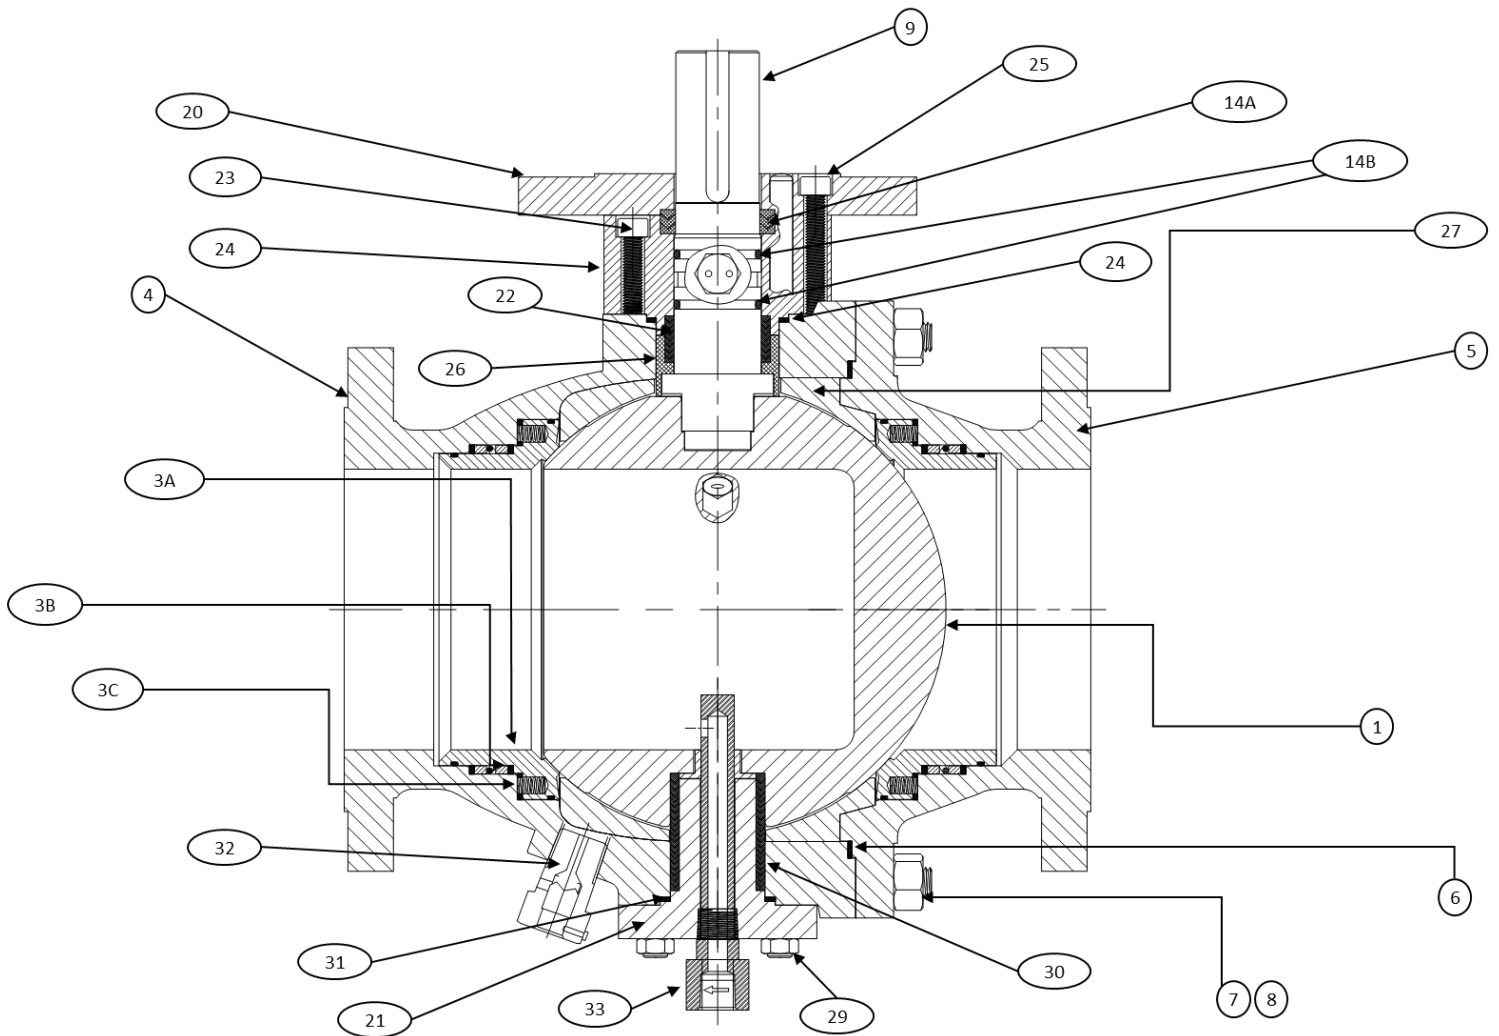

Figure 1
2. Cycle the valve while it is still in the line to remove any possible trapped pressure within the body cavity. Review Figure 1.
7. Place the valve with the tailpiece (5) facing up. Remove the Trunnion cap (28) and the Bonnet (20). Remove
1. Thoroughly clean valve body and components with a solvent (Review Figure 1) and Replace all seals.
2. Place body (4) so that the body cavity is facing up. Place cardboard or some other material under the gasket area on the flange in order to protect the area. The valve should be supported in some fashion to prevent it from tipping over. Install Seat Seals (3B) in proper locations. Carefully insert the Seat (3A), (3C) into the body seat cavity.
3. Place tail (5) so that the tail cavity is facing up. Place cardboard or some other material under the gasket area on the flange in order to protect the area. Install Seat Seals (3B) in proper locations. Carefully insert the Seat (3A), (3C) into the body seat cavity.
4. Install Body side of Cavity Filler (27).
5. Insert the ball (1) into the body cavity. Line the ball stem slot up with the stem opening in the body. Note: the seat springs are pushing the ball up and off center. You cannot put the stem and the trunnion in the ball until the ball is centered.
6. Install the Tailpiece Side Cavity Filler (27). Install The Body Gasket (6).
7. Assemble the tailpiece to the valve body. Take care not to let the seat ring fall out of the seat pocket while this is being done. Insert the body studs (7). Once the body studs (7) have been installed, evenly tighten the body (4) to the tail (5) using the body nuts (8)
8. The trunnion (21) and Trunnion Bearing (30) can then be installed into the ball (1).
9. Install Stem Seals (14B). Install the Stem (9), Stem Trunnion (26), Steam Bearing (22).
10. Install Bonnet Gasket (24) and Trunnion Gasket (31).
11. Install The Stem Retainer (24) and Stem Retainer Bolts (23). Torque Stem Retainer Bolts.